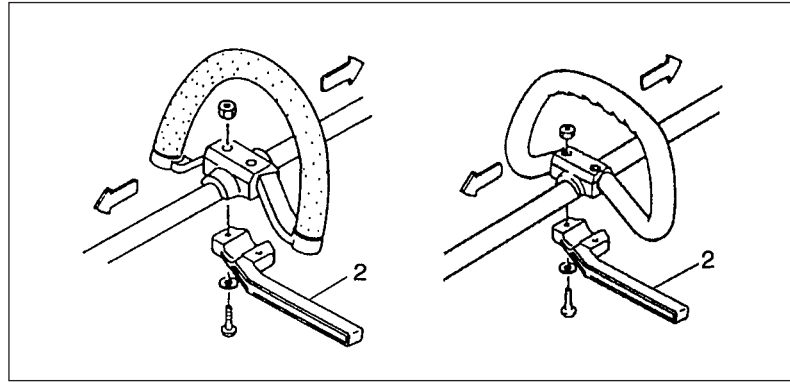

Fig. 1-2
When you use steel/rigid blades on straight shaft trimmers or brush cutters, always use barrier bar (2) and shoulder harness with the loop handle. (Fig.1-2)